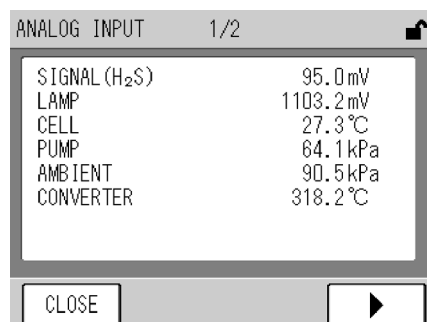

Fig. 63 ANALOG INPUT screen
- [ANALOG INPUT]: Displays the ANALOG INPUT screen (Fig. 63 on page 51).